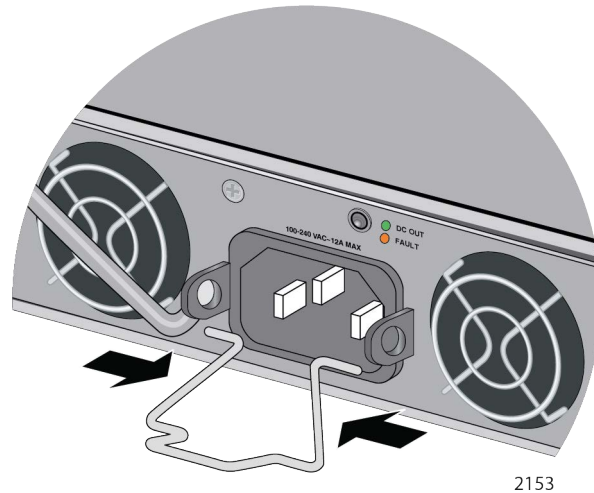

Figure 27. Installing the Power Cord Retaining Clip
7. If the power supply came with a power cord retaining clip, press the sides of the clip inward and insert the two ends into the holes on the AC socket. Refer to Figure 27.